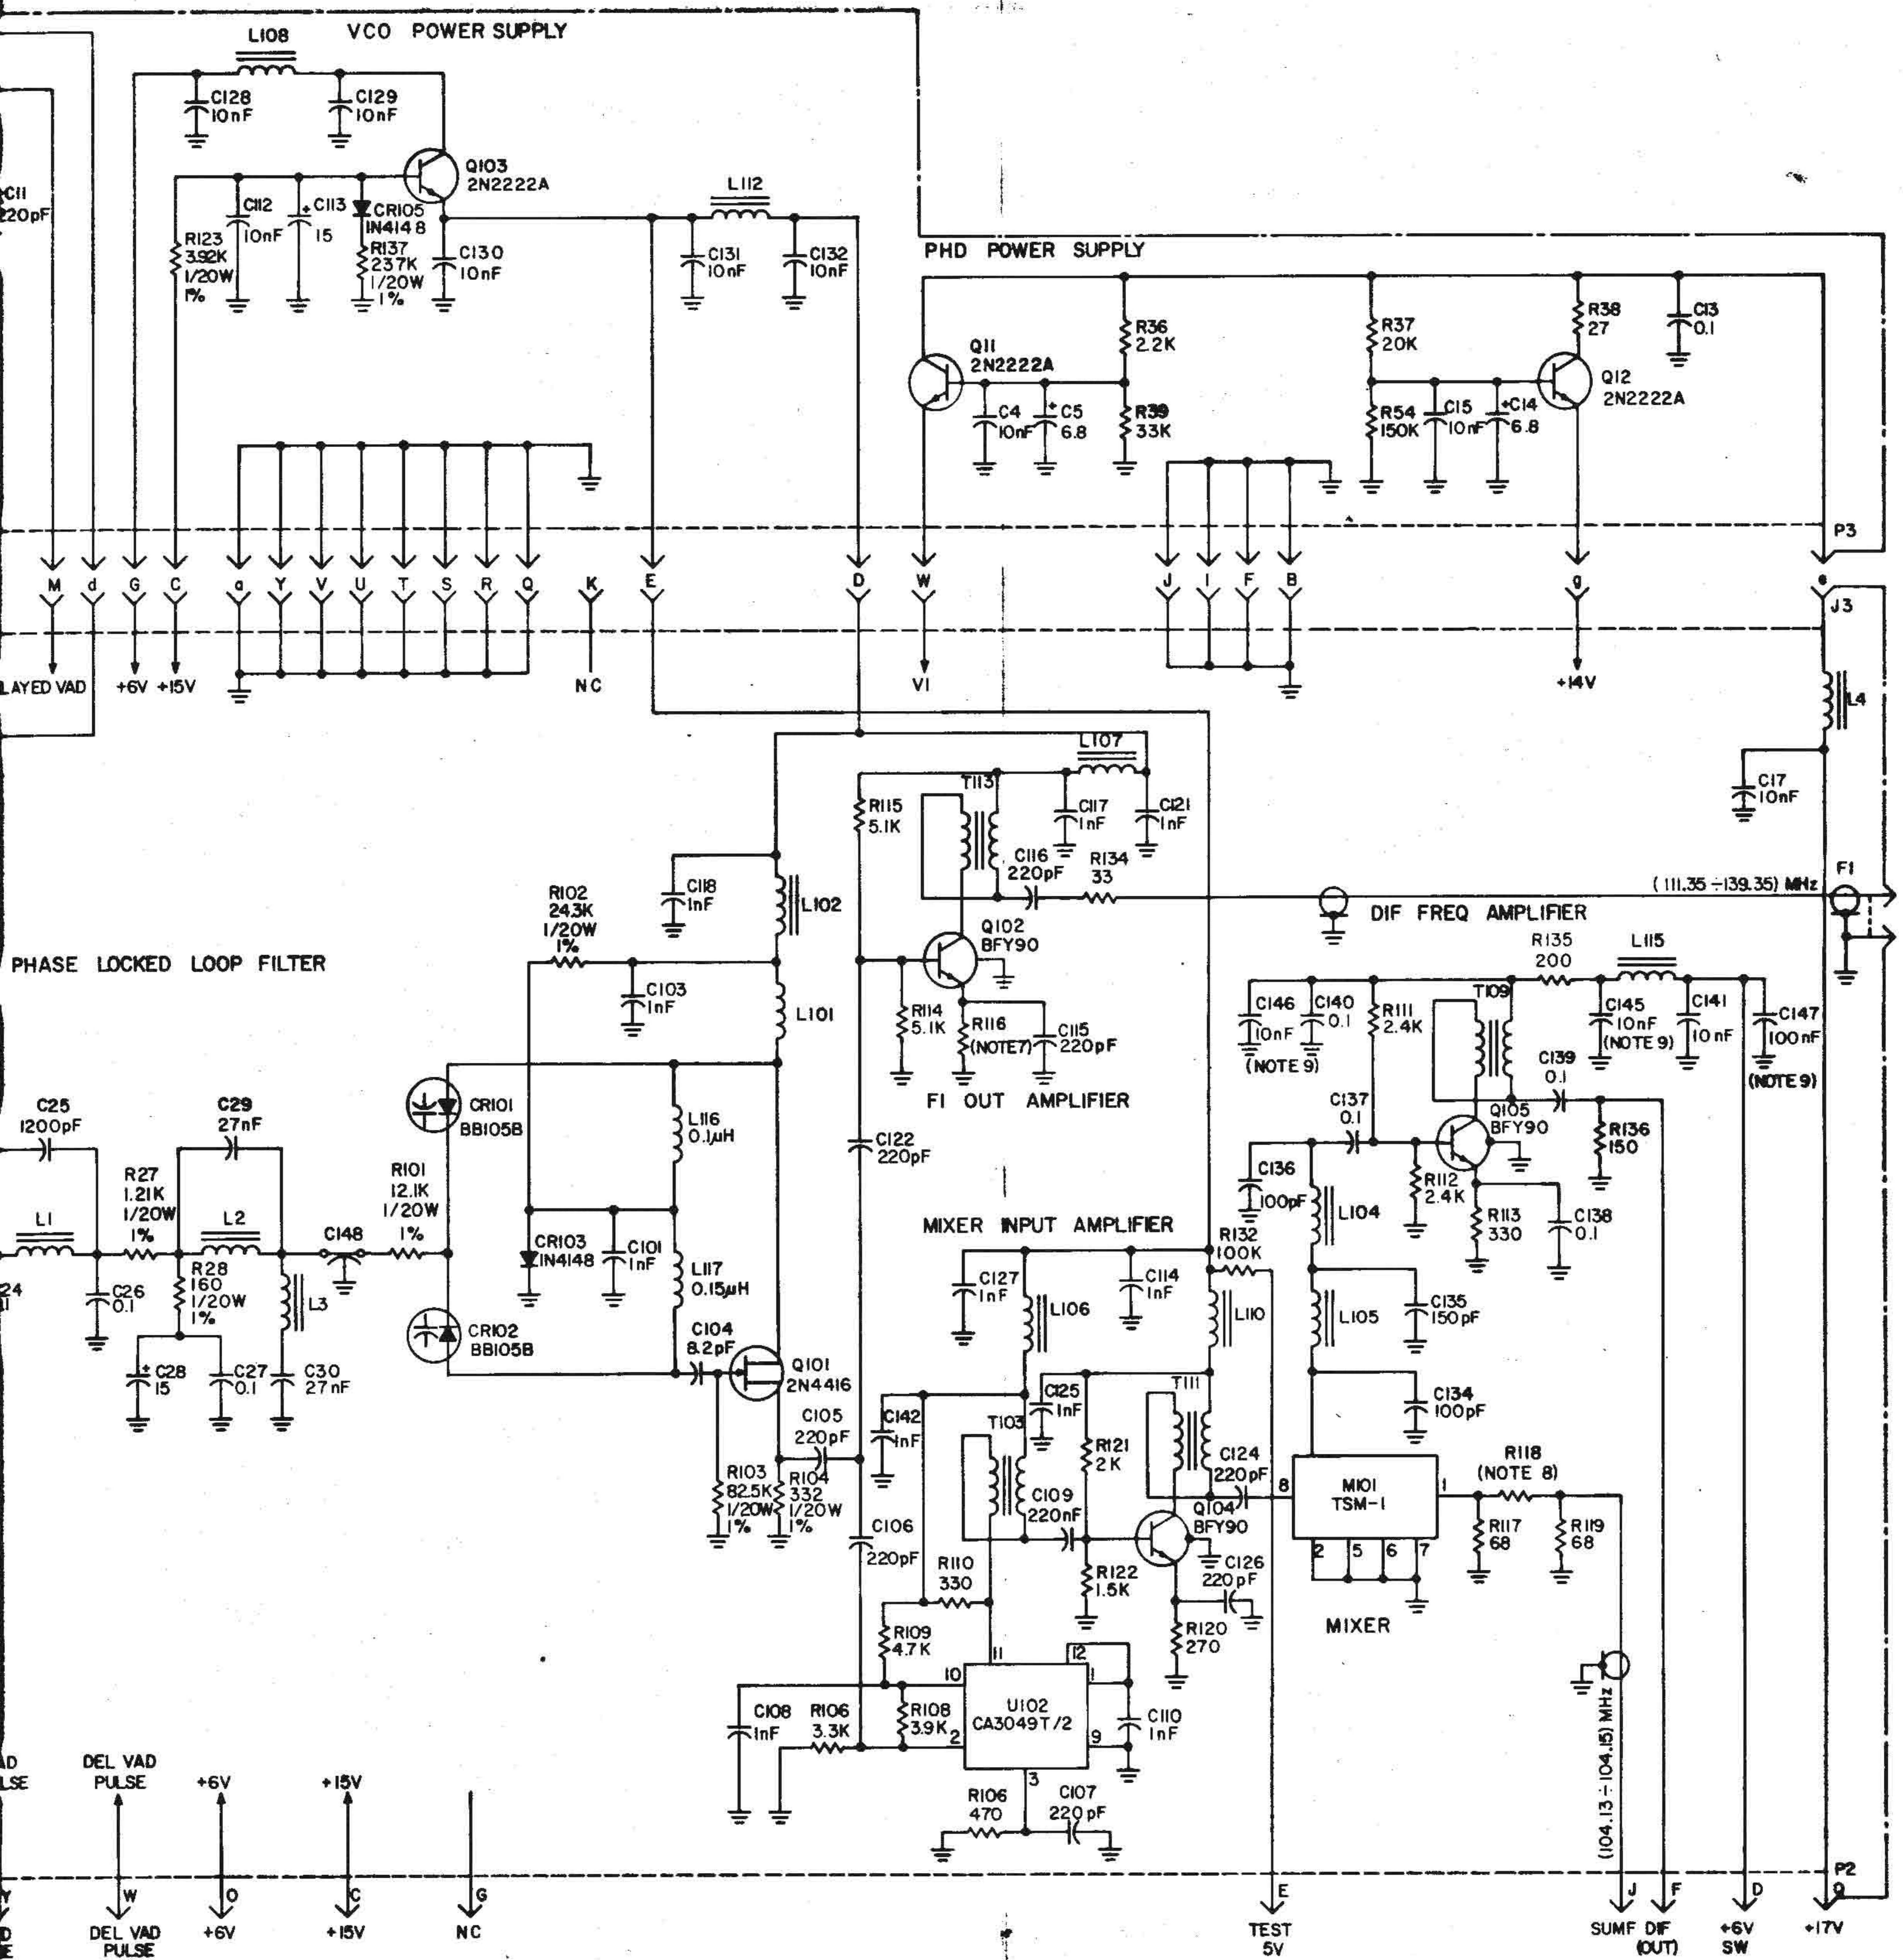
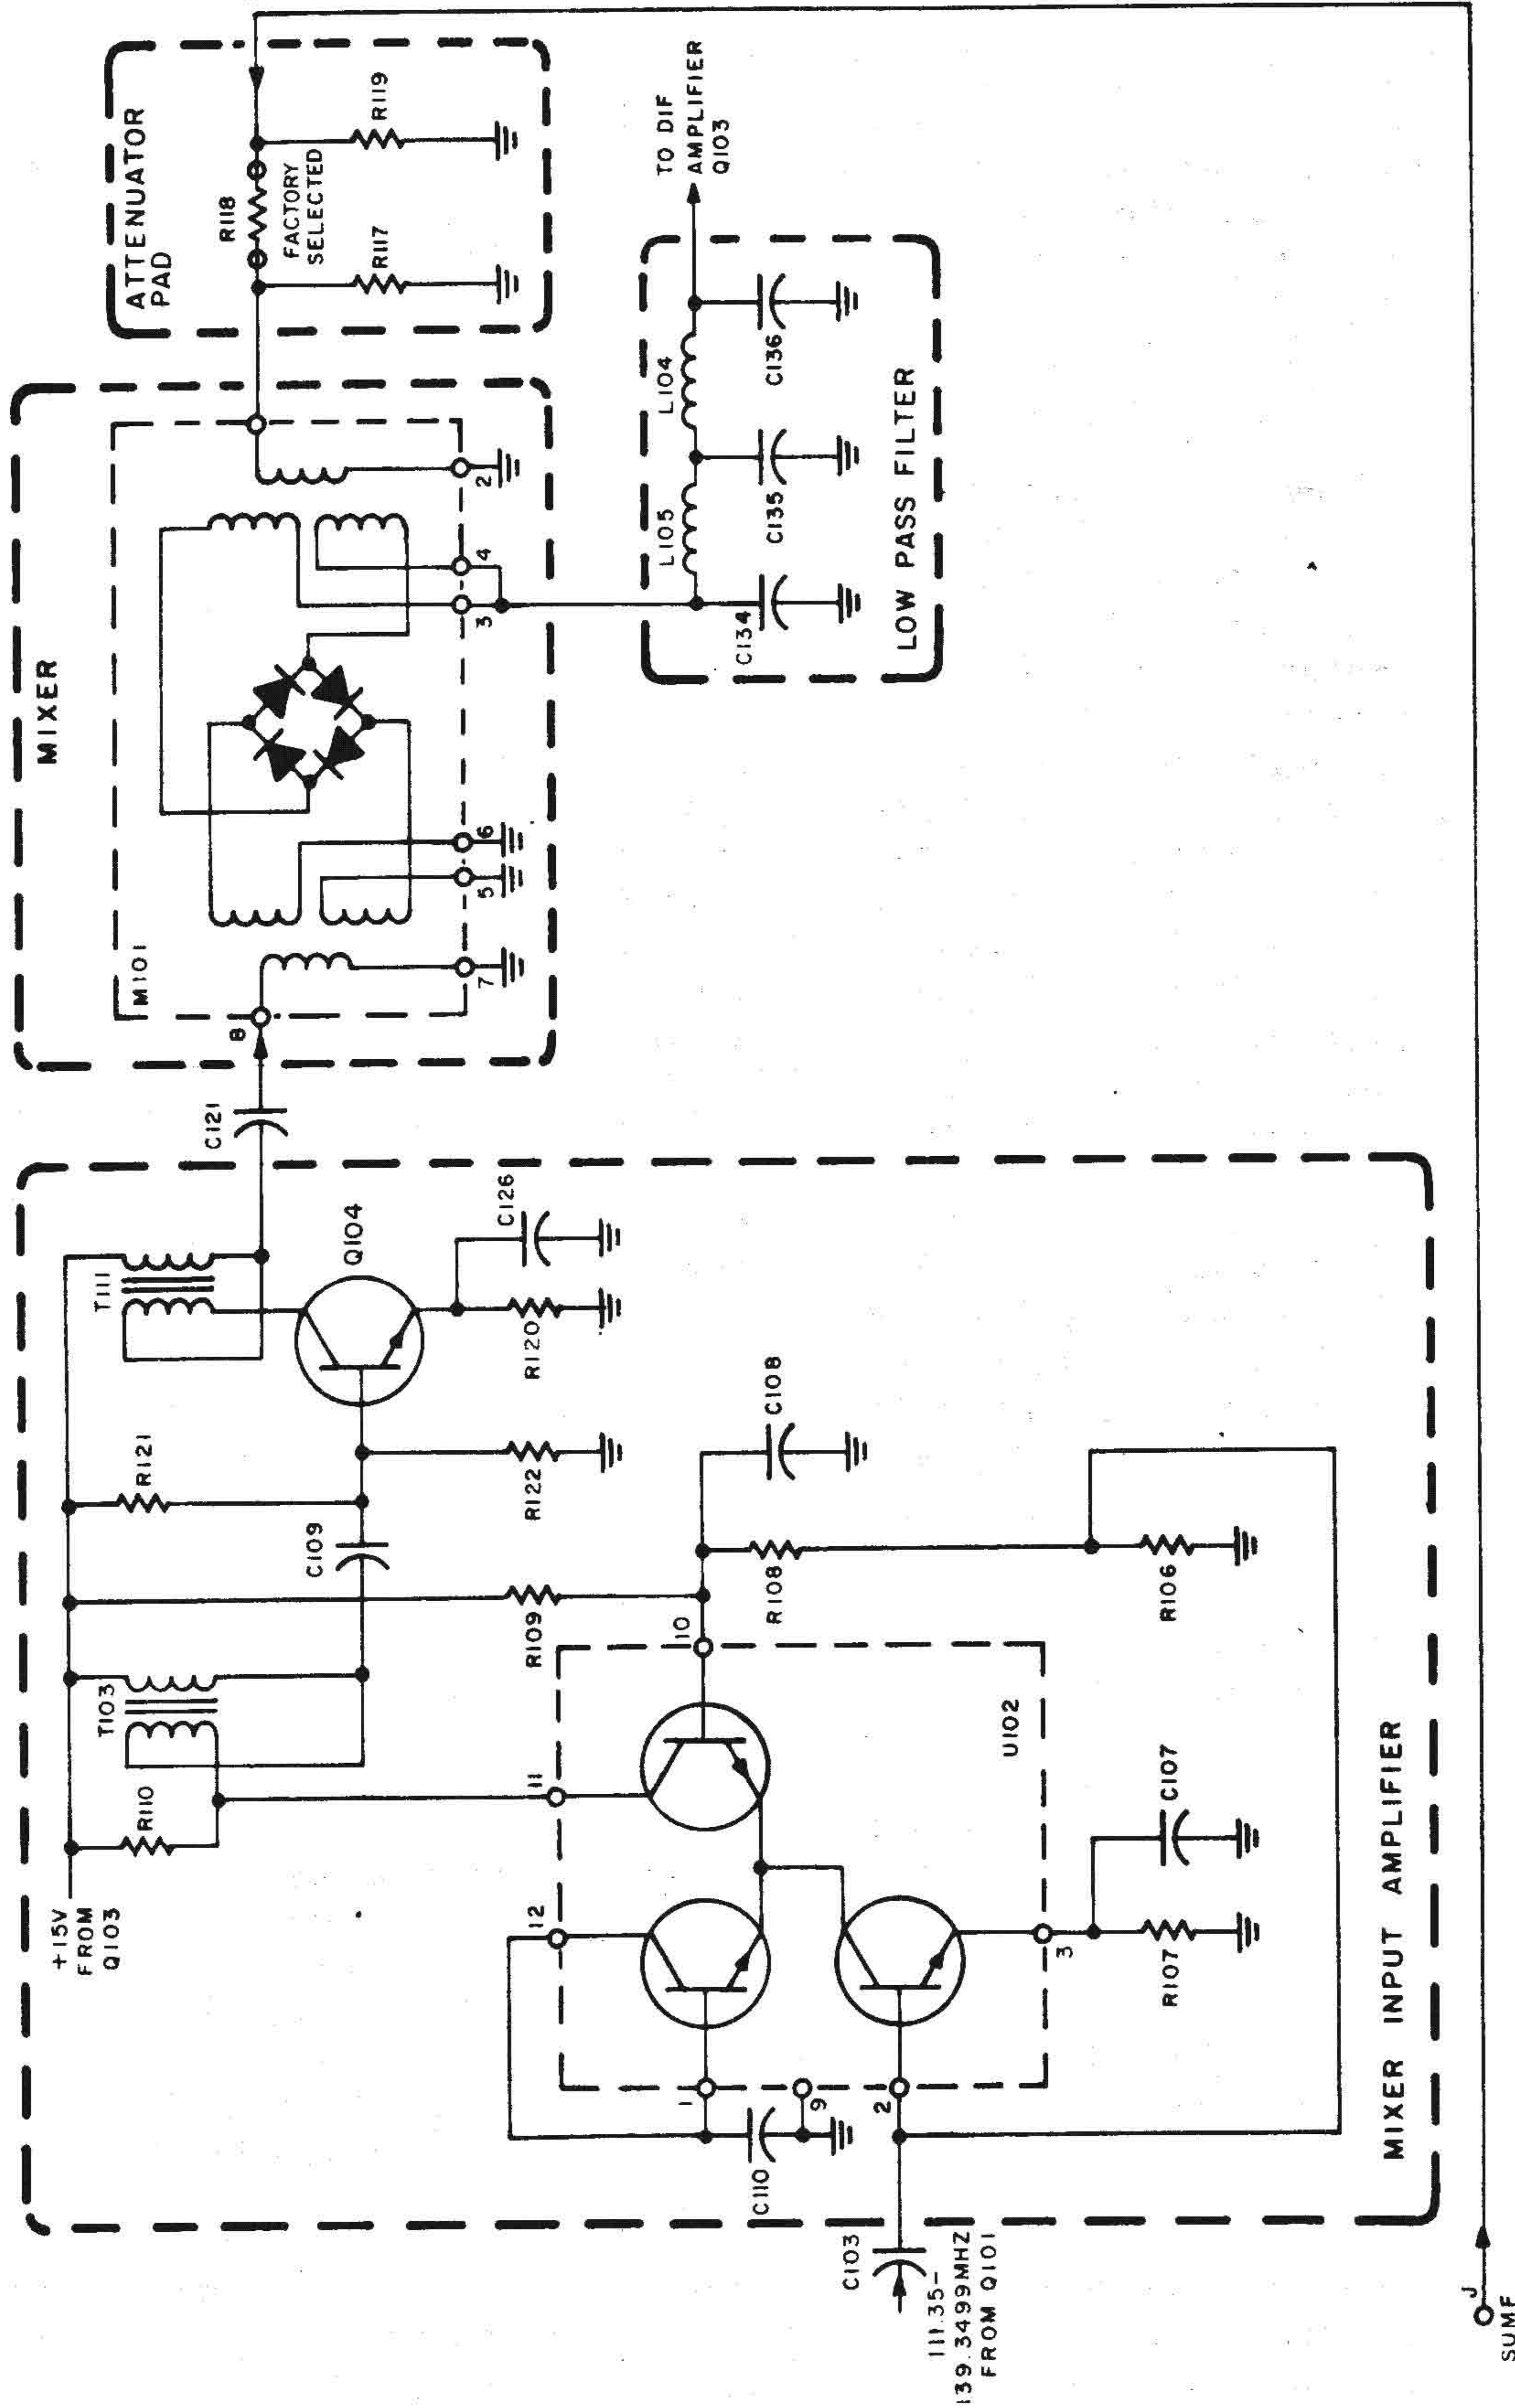

Fig. 2-65. Module VCP 1A3A1, schematic circuit diagram
Fig. 2-66. Mixer and mixer input amplifier, simplified circuit diagram
b. Circuit Analysis (fig. 2-65, 2-66, 2-67, 2-68).
(1) VCO circuit (fig. 2-65). The output signal of the module is generated by the voltage controlled oscillator built around FET Q101. The oscillation frequency depends on the values of L116 and L117 and the equivalent capacitance of variable capacitance diodes CR101 and CR102. The oscillator is a common-source Hartley oscillator. Its output signal is taken from Q101 source, via C105 and
(2) F1 amplifier (fig. 2-65). The F1 amplifier is built around Q102. R115 and R114 provide base bias. R116, bypassed at RF by C115, is selected to adjust the operating current. The output signal develops across transformer T113 and is sent through C116 and R134 to module MIXER 1A2A1.
(3) Mixer input amplifier (fig. 2-66). The VCO output signal is also coupled through C106 to the input of the integrated circuit U102, which contains a RF cascade amplifier. The output signal, appearing at pin 11, is coupled through transformer T103 to a second amplification stage built around Q104, which is identical to the F1 amplifier, Q102.
(4) Mixer (fig. 2-66). The output signal of Q104 drives one of the inputs to the passive double-balanced mixer M101. The other input of this mixer receives the SUMF signal (pin J) generated by module SUM 1A3A5. The SUMF signal is attenuated by R117, R118, and R119 before being applied to the mixer. The difference frequency, appearing at pin 3 of M101, is filtered by C134, L105, C135, L104, and C136.
(5) DIF amplifier (2-65). The filtered difference signal is coupled through C137, to the base of the Q105 amplifier. This amplifier is similar to the F1 amplifier, built around Q102. The amplified difference signal (between 7.22 and 35.20 MHz) passes through T109, C139 and pin F (DIF OUT) to the programmable divider in module VAD 1A3A2.
(6) Pulse-width-to-voltage converter (fig. 2-65, 2-67, 2-68). The VCO DC control voltage is generated by converting the output pulse of the digital phase/frequency detector contained in module SUM 1A3A5 to a DC voltage proportional to the pulse width.
(7) Loop filter (fig. 2-65). The loop filter consists of the following elements: